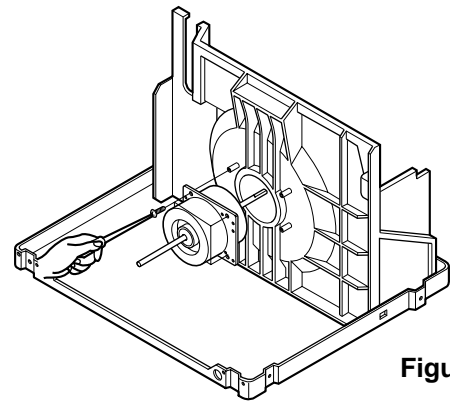

Figure 23
4. Remove the 4 screws that fasten the motor from the air guide. (See Figure 23)
6. Re-install the components by referring to the removal procedure, above. (See Figure 23)